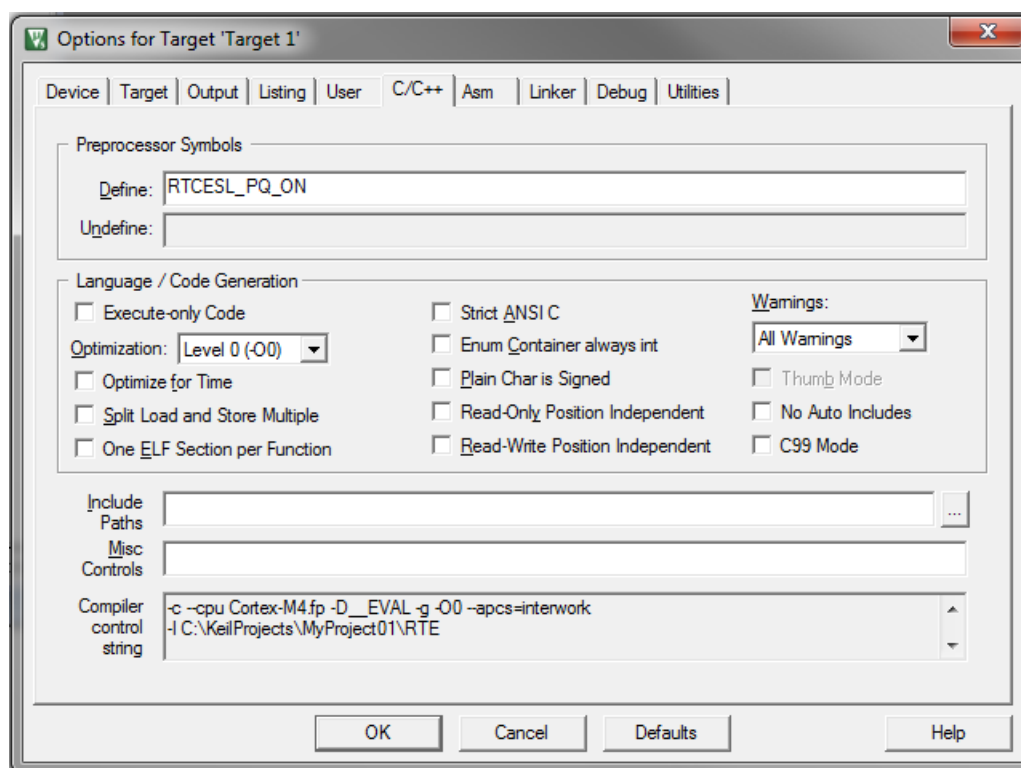

Figure 1-31. Preprocessor symbols
2. Select the C/C++ tab. See Figure 1-31.